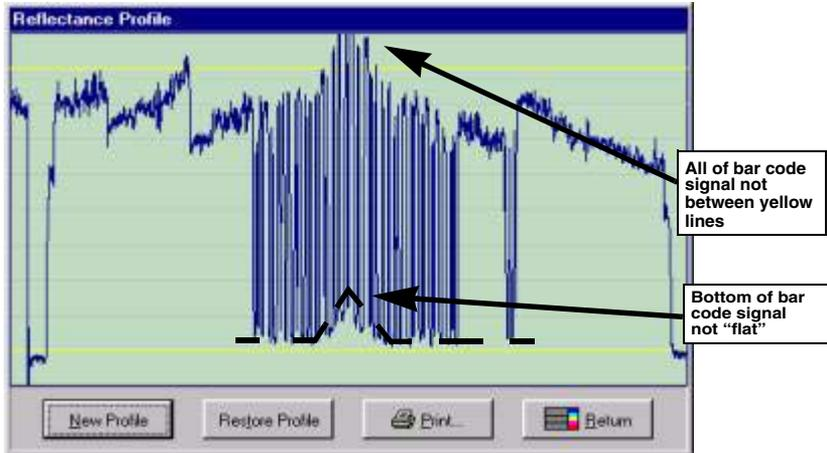

Figure 3 - Examples of Scan Profile Parameters Out of Range
9. If the bottom of the signal is not flat, change the scan angle and repeat steps 3 -7. If the code's signal amplitude is not within the yellow lines, follow the Setup procedure by using the ~Hd commands (page 6-10). (See "Figure 3 - Examples of Scan Profile Parameters Out of Range" on page A-5\)
13. If the bottom of the signal is not flat, or the signal level is not within the yellow lines (see "Figure 3 - Examples of Scan Profile Parameters Out of Range" on page A-5\), or at least 5 lines in amplitude, the material used in the application is not adaptable to scanner settings compatible with the calibration symbol. Use steps 3-8 to adjust the scanner gain